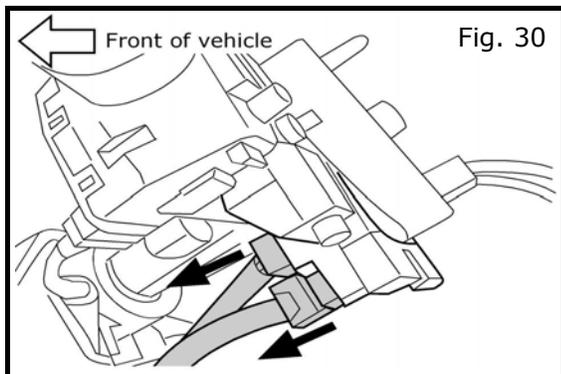

Fig. 30
- a) Remove the two connectors on the back lower LH side of the spiral cable. Remove the spiral cable assembly as shown in Fig. 30.